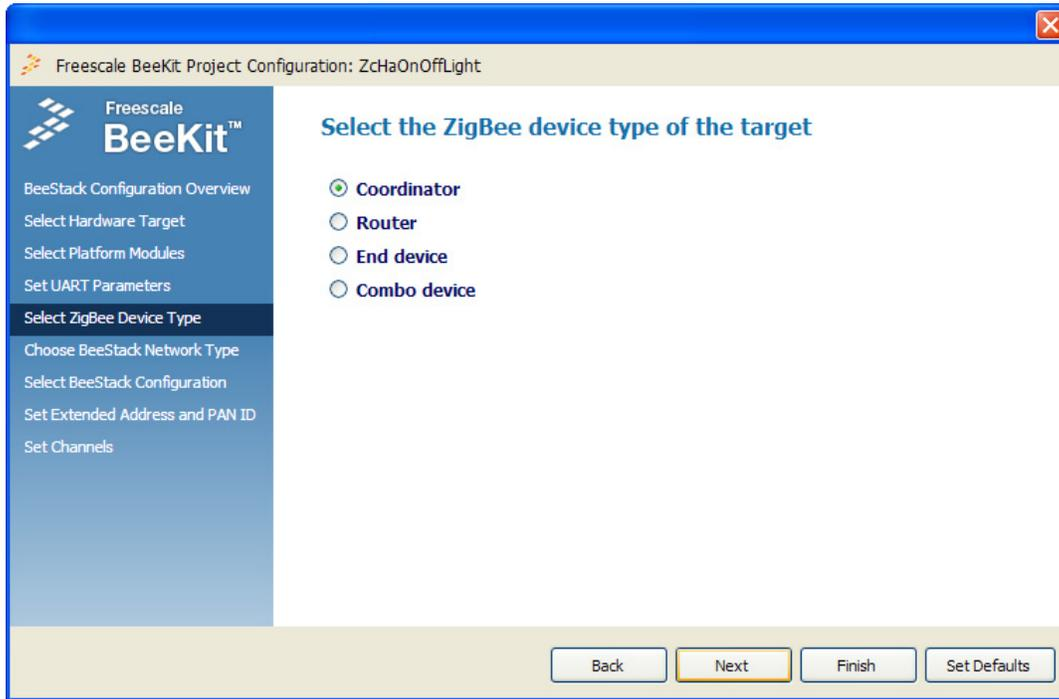

Figure 3-8. ZigBee Device Type Selection Page
6. Leave the default UART settings as is. The UART module will be enabled on the USB port of the board and ZTC will be disabled. Click Next to go to the ZigBee Device Type Selection wizard page shown in Figure 3-8.